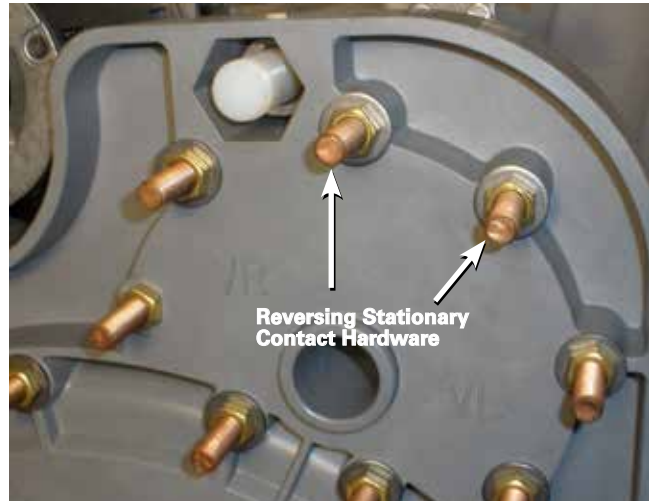

Figure 9. Reversing neutral stationary contact.
7. Use a 9/16" wrench to loosen and remove the nuts and flat washers from both of the reversing neutral stationary contacts on the back of the tap-changer contact panel. See Figure 9.